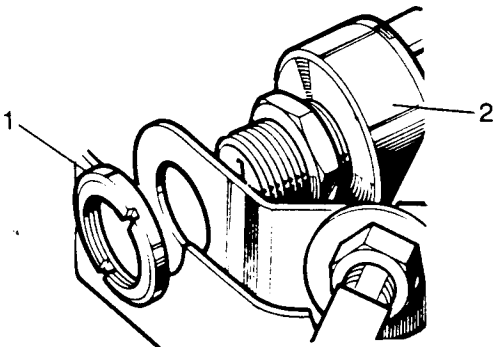

Fig D4.5
- (5) Refer to Fig D4.5. Unscrew the locking ring (1) and withdraw the switch (2).